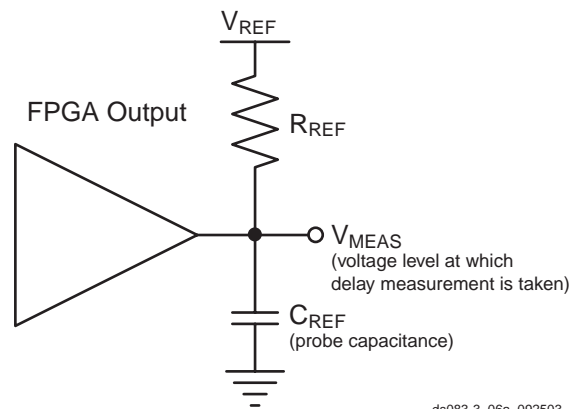

Figure 6: Generalized Test Setup
- Note that this is an input voltage reference that bears no relation to the V_{REF} / V_{MEAS} parameters found in IBIS models and/or noted in Figure 6.
Output delays are measured using a Tektronix P6245 TDS500/600 probe (< 1 pf) across approximately 4" of FR4 microstrip trace. Standard termination was used for all testing. (See Virtex-II Pro User Guide for details.) The propagation delay of the 4" trace is characterized separately and subtracted from the final measurement, and is therefore not included in the generalized test setup shown in Figure 6.